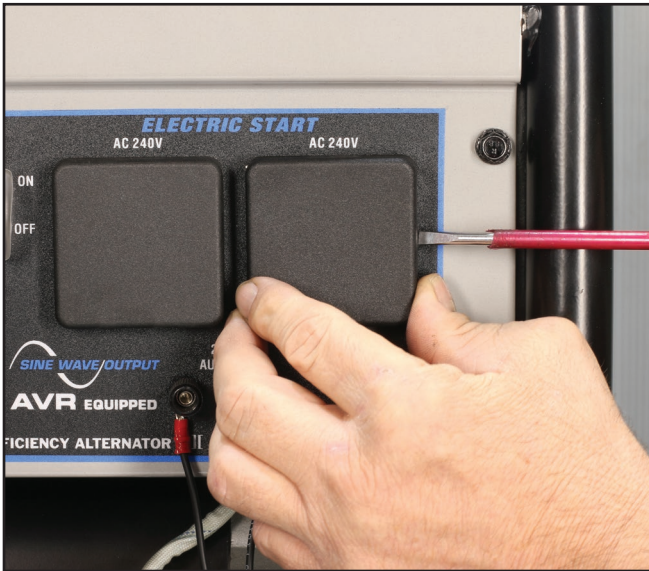

Figure S3 – Removing the 240-Volt AC Socket Cover
- Remove the snap-on cover from the right-hand-side 240-Volt AC socket only using a small flat blade screwdriver (see Figure S3).